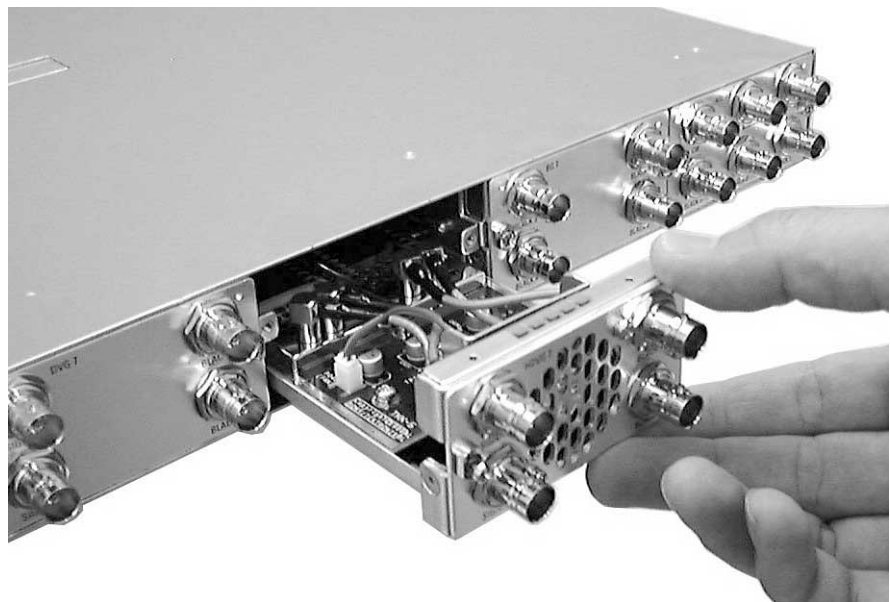

Figure 3: Installing the module
4. Insert the module into the slot, paying attention to the module orientation. See Figure 3.